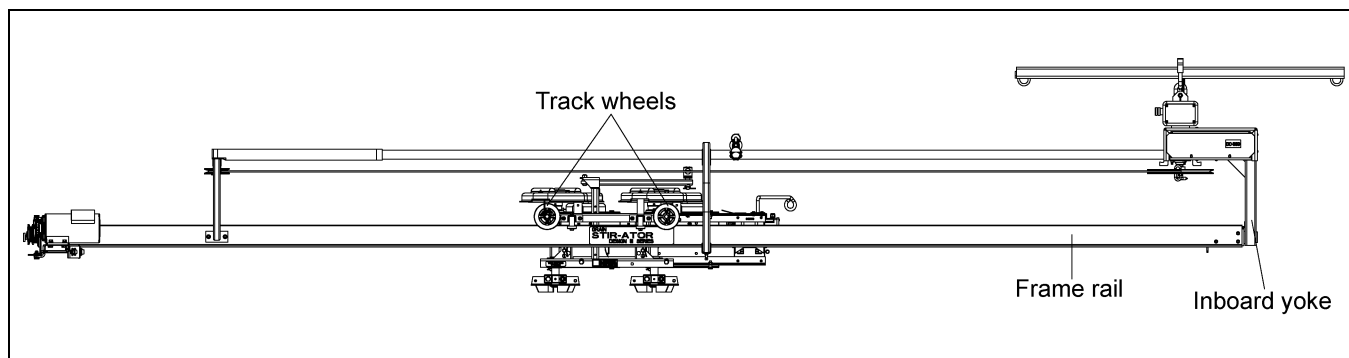
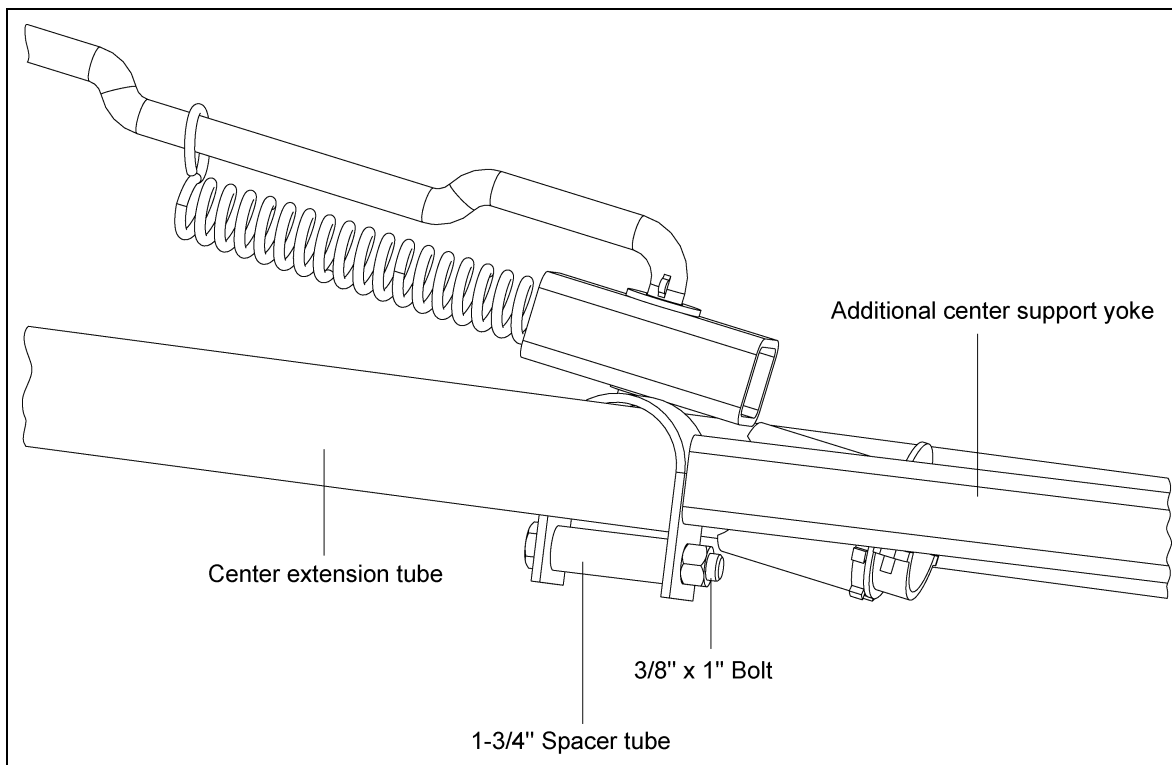

Figure 4T
**Figure 4V**
1. The yoke assembly is attached to the frame rails by placing the pivot tube into the center frame support. If the pivot tube does not slide in readily, file any burrs and grease the inside of the center frame support. Secure by placing a 1/4" x 3" cotter pin through the tube. Open the end of the cotter pin. The end yoke is bolted to the left frame rail with two (2) 3/8" x 1" carriage bolts, lock washers and hex nuts. Bolt from the inside out. Tighten with socket head on impact wrench. (See Figure 4T, Figure 4U below, Figure 4V and Figure 4W on Page 26.)